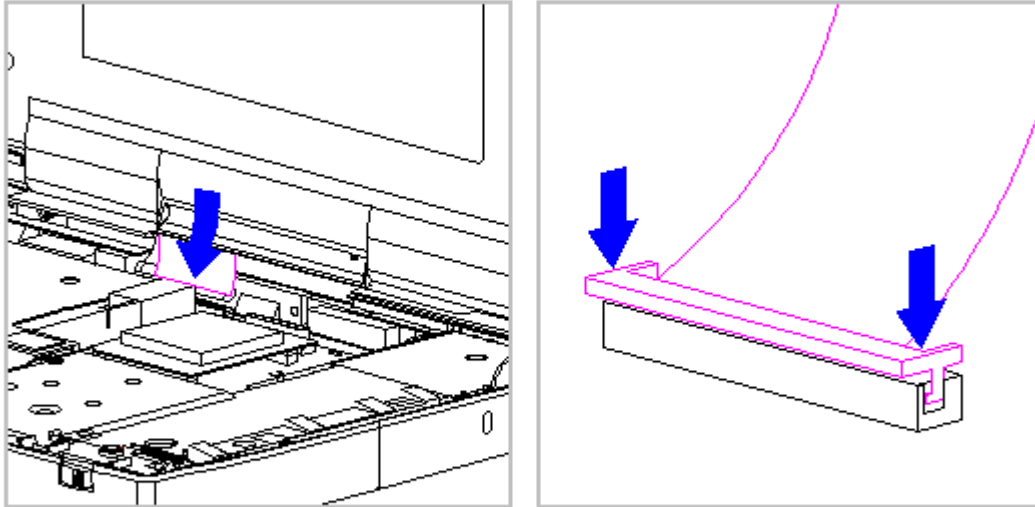

Figure 3-157. Connecting the Display Cable to the System Board (Models 420 and 430)
12. While holding the end of the display cable inside the ZIF connector slide, press down both ends of the slide simultaneously to secure the cable in the ZIF connector (Figure 3-157).